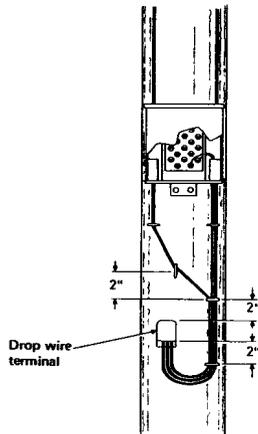

FIGURE 3. Termination of Additional Wire
- 3.06 When necessary to terminate a third drop wire, use a drop wire terminal to bridge the additional wire outside the cable terminal. Remove one drop wire from the terminal binding post and place it and the third wire in the drop terminal (see Figure 3).